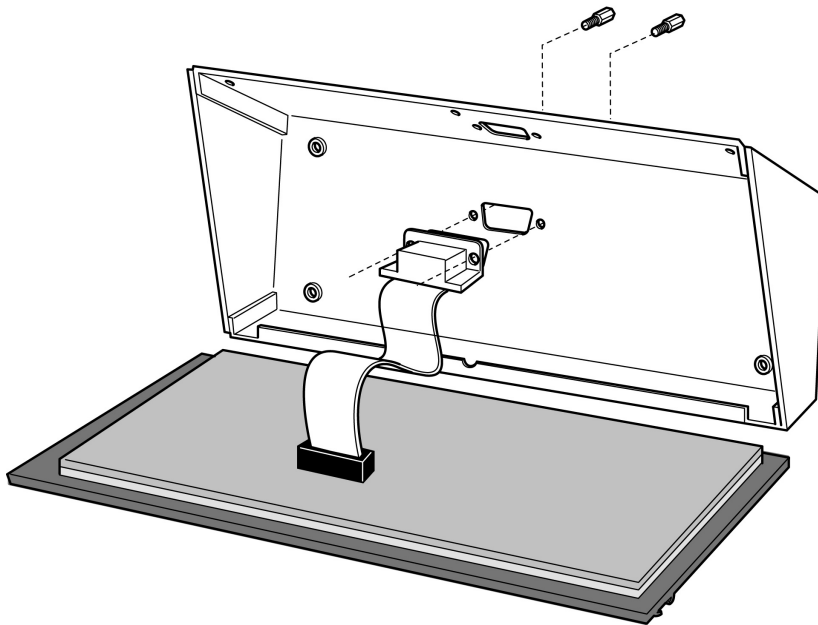

Figure 3.2.2 Moving the connector
- Pry out the metal plate that covers the DE-9 opening on the bottom of the enclosure. Attach the DE-9S connector into this opening (figure 3.2.2).